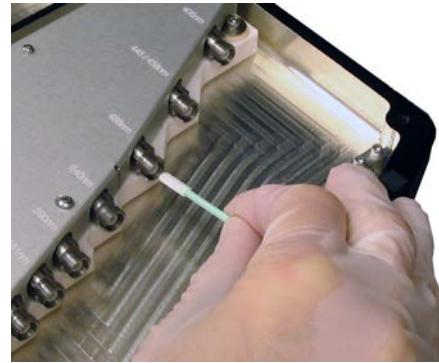

Figure 13-9. Insert Swab into Fiber Sleeve
6. Insert the swab into the fiber sleeve of the OBIS Galaxy, as shown in Figure 13-9. Rotate the swab one full turn and then remove the swab from the sleeve.